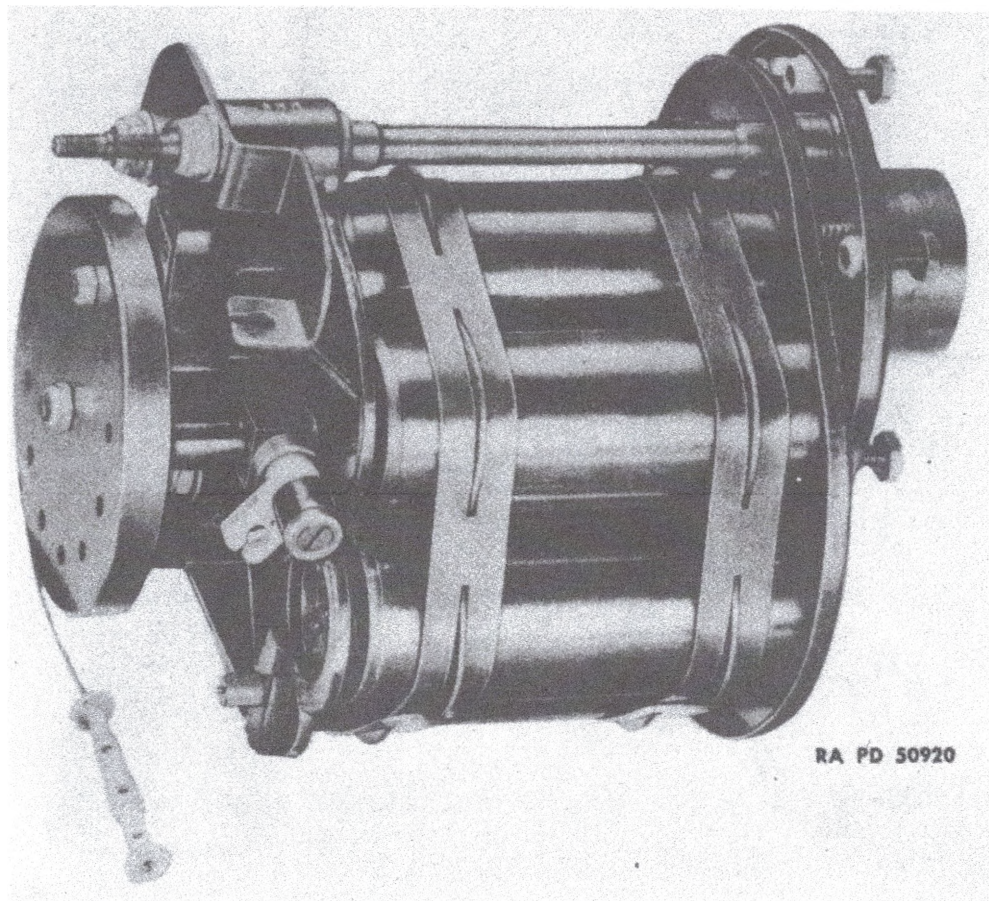

Figure 7 — Discharger, Pyrotechnic, AN-M5 — Right Side View
(6) **PYROTECHNIC DISCHARGER AN-M5** (figs. 7 and 8). This discharger is double-action, multibarrel, and designed to be fired by the Remote Controller M2. The discharger and controller is a modification of the British Signal Discharger, 1½-inch, Mk. II equipped with a remote firing control. The modification consists principally in a reduction of the barrel length from 6 inches to 4½ inches and the use of standard ¼-inch, 28-threads-per-inch mounting nuts in place of the British type nuts on the mounting plate. The discharger is used on airplanes where installation of pyrotechnic pistols is not practical. It is used for signalling from an airplane in flight to troops on the ground, or to other aircraft.